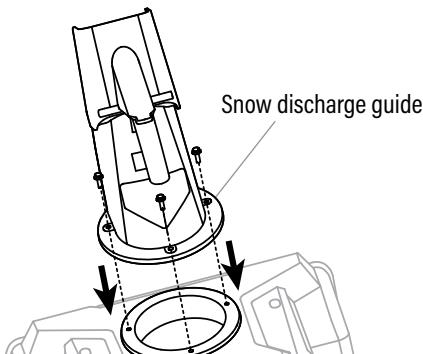

Fig. 3A
2. Put the snow discharge guide on the base and make sure the assembly hole in the bottom of the snow discharge guide aligns with the holes in the base. (Fig. 3A)
3. Fix the snow discharge guide onto the motor housing with the three M6 bolts provided. (Fig. 3A)